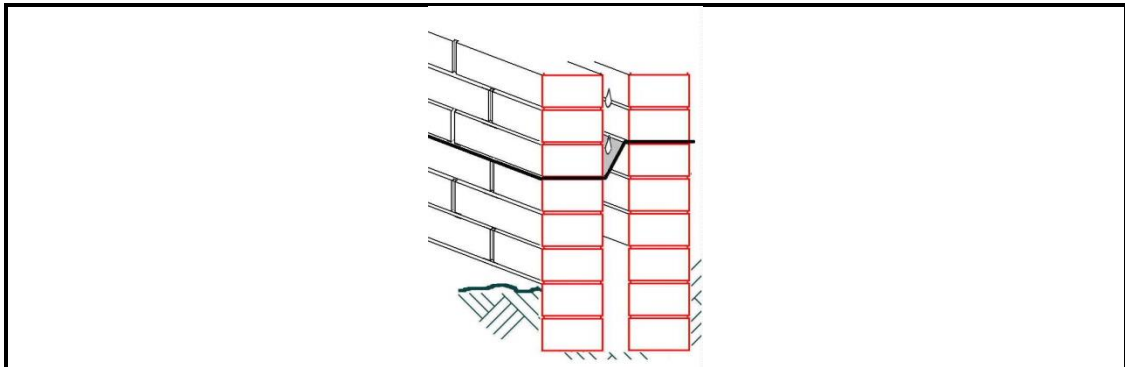

FIGURE 5.1
5.1 Answer the following questions about the wall construction in FIGURE 5.1.